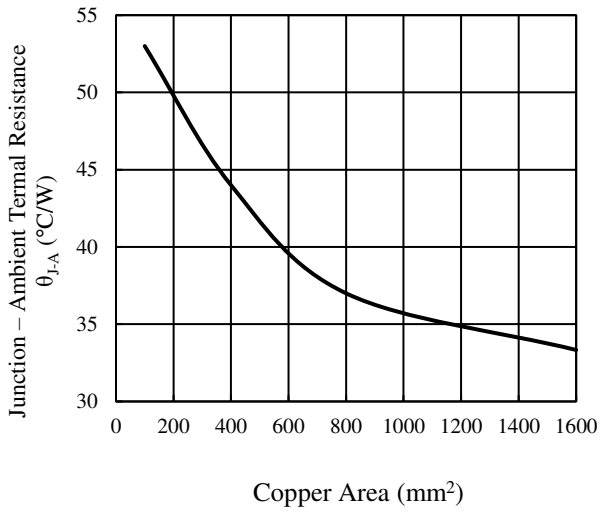

Figure13-3 Thermal Resistance – Copper Area Reference Characteristics (Single-sided Copper Foil Board, FR-4)
Figure 13-3 shows the derating of the IC. When using the IC, ensure a sufficient margin.
- (3) Determine the copper area by confirming the intersection of ambient temperature and power dissipation by the thermal derating characteristics shown in Figure13-3.
For reference, Figure13-3 shows the relationship between the copper area and thermal resistance of a single-sided copper foil board, FR-4.